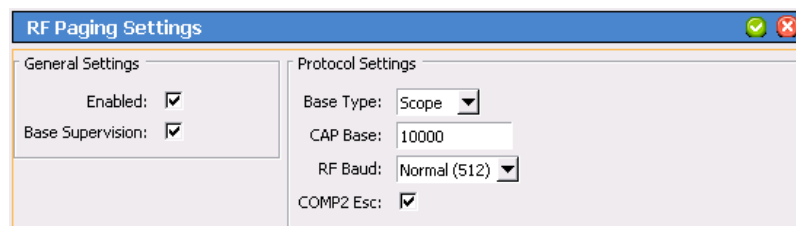

Figure 34: RF Paging Settings
2. Click on the **Edit** button in the **RF Paging Settings** area shown in Figure 34.